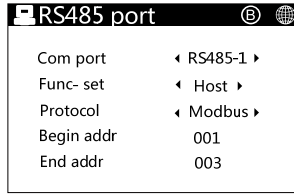

Fig. 9-6 Parameter setting interface of SolarInfo Logger port
Step 2 If the RS485 interface is used, relevant parameters need to be set in the port parameter setting interface of SolarInfo Logger. The unit must be set to Slave in the Host-Slave setting (See Fig. 9-6). For details on the setting, please refer to **0.0.0 Port Settings**.